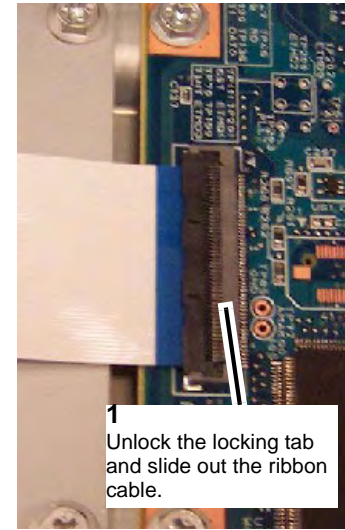

Figure 3 Disconnecting the Ribbon Cable
4. Disconnect the ribbon cable connecting the S2X PWB to the IIT/IPS PWB (P742 - Figure 3).